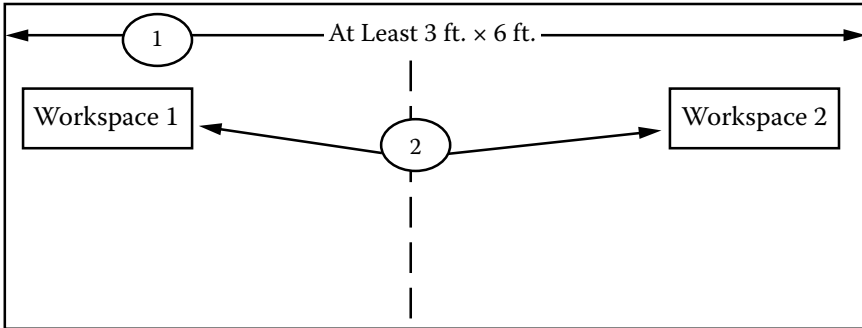

Figure 4.7 Paper on wall with two workspaces.
1. Place a large (at least 3' × 6") piece of paper on a wall or flat surface (Figure 4.7).
2. Outline two "workspaces" on the paper (Figure 4.7).